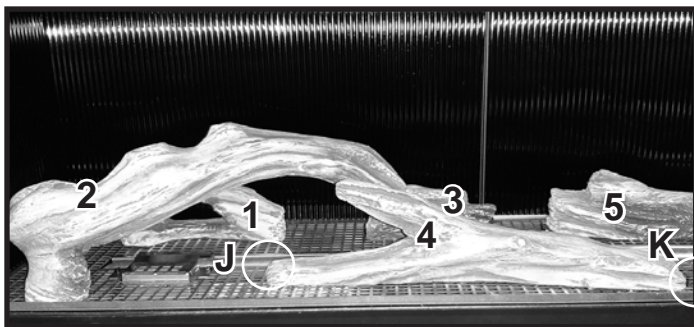
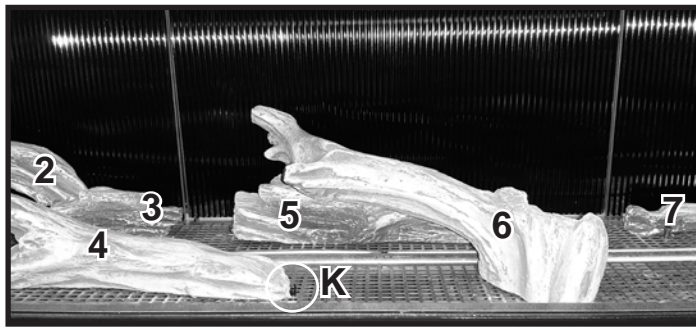

Figure 7 Install Log #4
Figure 8 Install Log #6
**Log #4:** Place Log #4 against log pin K on the right shown in Figure 7 and Figure 8. Pivot the log backward until it contacts the left log pin (J). See Figure 7.
**Log #6:** Insert the left side support feature of Log #6 into the recess on Log #5. Pivot the right side of the log forward until it contacts the media tray ledge. Ensure the log is stable and fully engaged with the supporting log. See Figure 8.